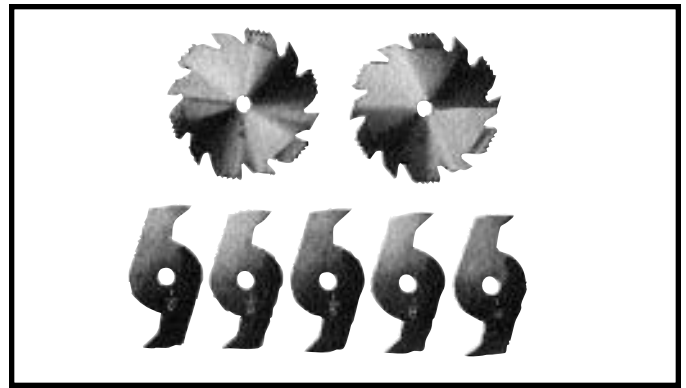
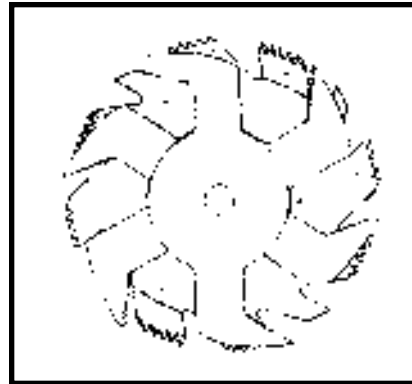
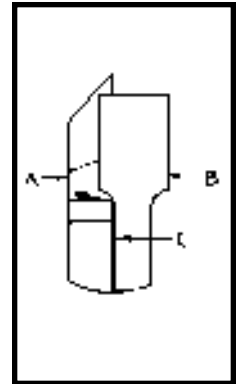

Fig. 84
Fig. 85
Fig. 86
Dadoing is cutting a rabbet or wide groove into the work. Most dado head sets are made up of two outside saws and four or five inside cutters, as shown in Fig. 84. Various combinations of saws and cutters are used to cut grooves from 1/8" to 13/16" for use in shelving, making joints, tenoning, grooving, etc. The cutters are heavily swaged and must be arranged so that this heavy portion falls in the gullets of the outside saws, as shown in Fig. 85. The saw and cutter overlap is shown in Fig. 86, (A) being the outside saw, (B) an inside cutter, and (C) a paper washer or washers which can be used as needed to control the exact width of groove. A 1/4" groove is cut by using the two outside saws. The teeth of the saws should be positioned so that the raker on one saw is beside the cutting teeth on the other saw.